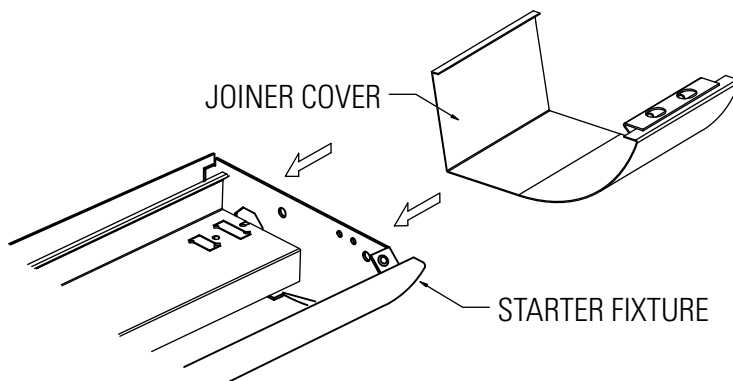

Figure 5
1. Slide JOINER COVER on to each joining end of STARTER FIXTURE. (Fig. 5)